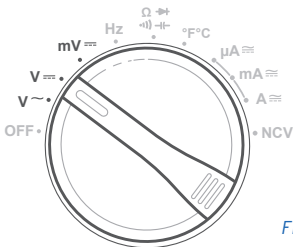

Figure 2.1
1. Turn the rotary dial to the AC voltage, DC voltage, or DC mV (millivolts) position. [\[Figure 2.1\]](#)